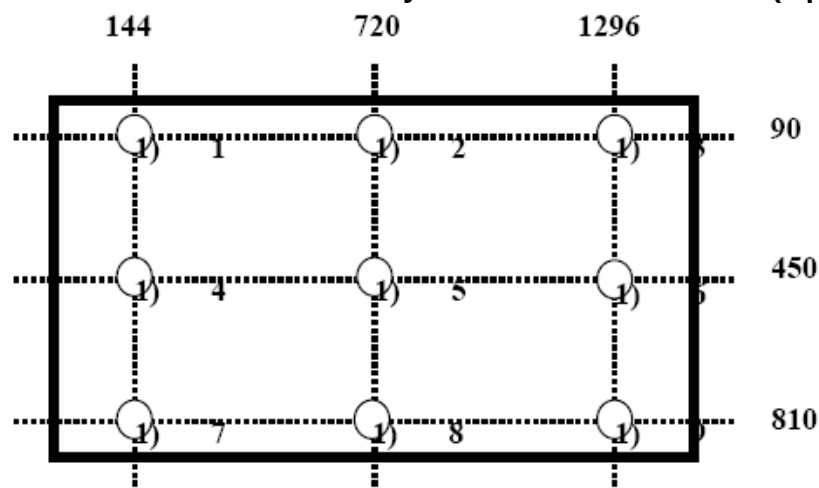

Figure 1: Measurement set up
- Contrast measurements shall be made at viewing angle of θ= 0° and at the center of the LCD surface. Luminance shall be measured with all pixels in the view field set first to white, then to the dark (black) state. (See FIGURE 1) Luminance Contrast Ratio (CR) is defined mathematically.